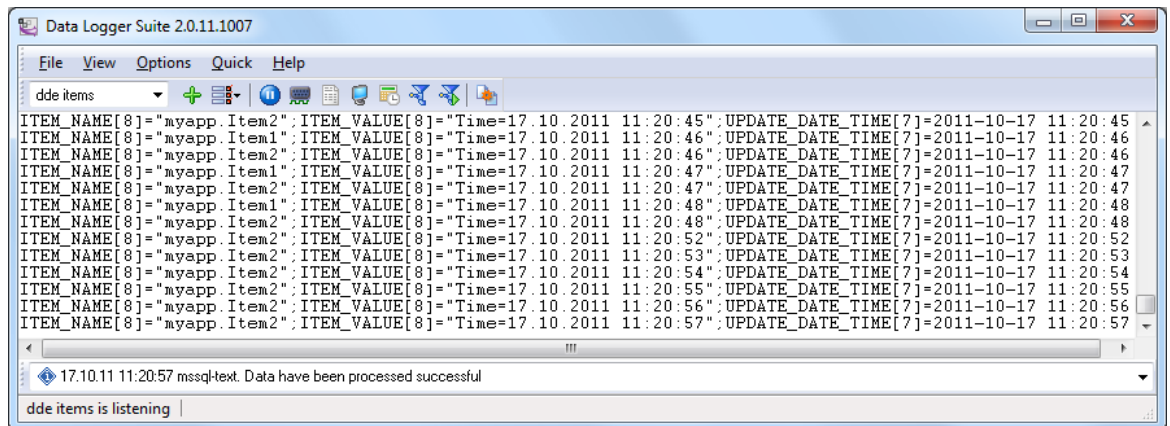

Fig. 9 A message about data being successfully written
10. Check the status bar to make sure the data is being successfully processed (fig. 9).